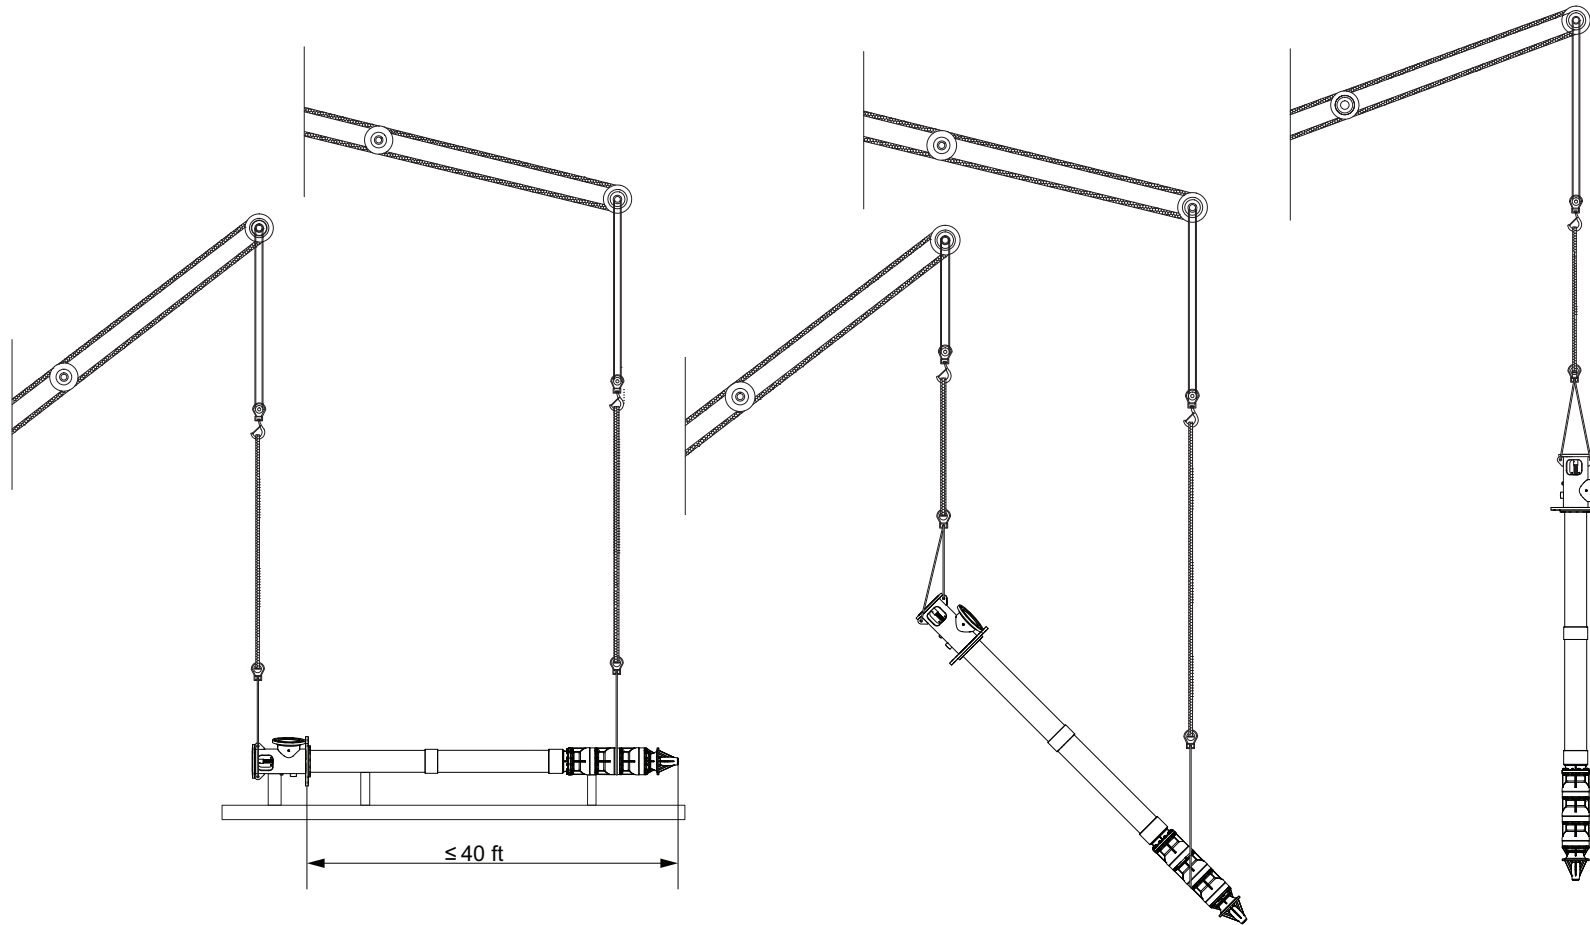

Figure 4-1: Lifting Pumps from Horizontal to Vertical Position
|   | <p>DEFLECTION OF THE PUMP</p> <p>To prevent deflection of the pump components, take appropriate precaution to prevent the weight of the pump from resting on the suction bell or case, when lifting to vertical position. Refer to <a href="#">Figure 4-1 on page 15</a>.</p> |
When lifting an assembled pump, it must be supported at minimally two locations. When lifting to the vertical position, use the discharge head lifting lug locations to lift the pump assembly (refer to Figure 4-1 on page 15). For pump units over 40 ft in length, the pump shall be assembled during installation vertically in place over the mounting location.
1. Mobile crane capable of hoisting and lowering the weight of the pump or motor (refer to Figure 4-1 on page 15).
2. Cable sling for attaching to the pump and motor lifting eyes (refer to Figure 4-1 on page 15).